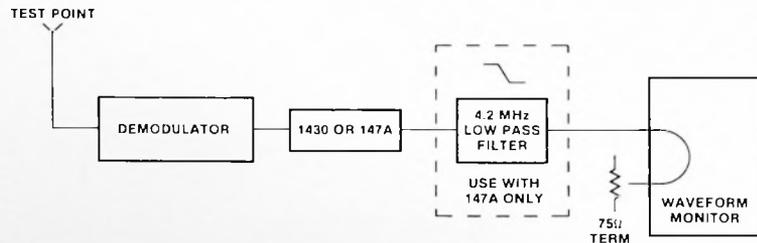

Figure 8-5. Equipment connection for alternative noise measurement.
- Connect the equipment as illustrated in figure 8-5.